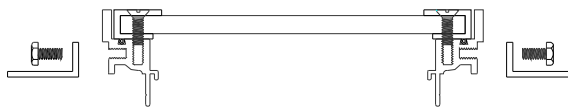

Figure 3
STEP 2. Select a frame section, the clip anchors and the clip anchor bolts. Attache the clip anchors to the frame using the clip anchor bolts, see Figure 3. Typical clip anchor spacing is 20" o.c. with an anchor a nominal 3" from each end of each frame section. **DO NOT OVERTIGHTEN THE CLIP ANCHORS.**